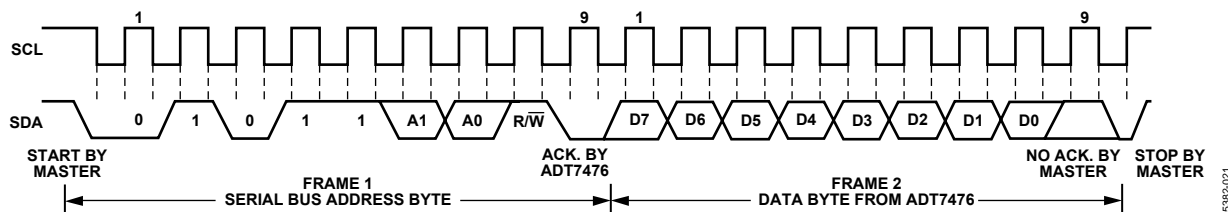

Figure 20. Reading Data from a Previously Selected Register
A read operation is then performed consisting of the serial bus address,  $R/\overline{W}$  bit set to 1, followed by the data byte read from the data register (see Figure 20.)
- If the address pointer register is already at the desired address, data can be read from the corresponding data register without first writing to the address pointer register (see Figure 20).